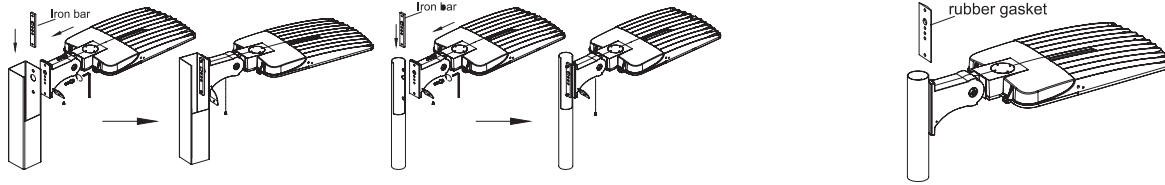

Figure 5
5. When installing to a square / round pole, align the holes of the EX bracket and pole. Pass the fixing screws through both holes. Place the iron bar inside of the pole to attach fixing screws. ATTENTION: When installing to a round pole, remove the rubber gasket as shown in Figure 5.